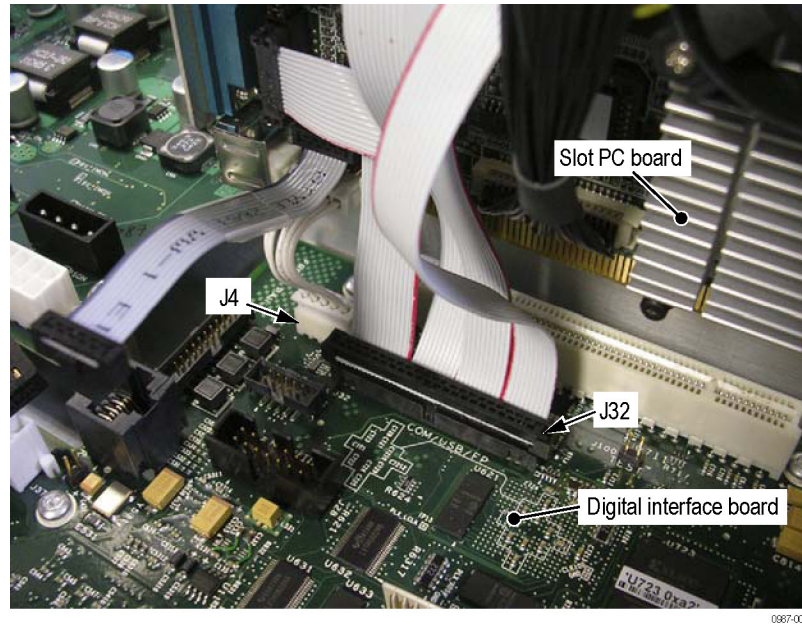

Figure 7: Cables J4 and J32 locations
8. Disconnect these cables from the Digital Interface board as shown. (See Figure 7.)